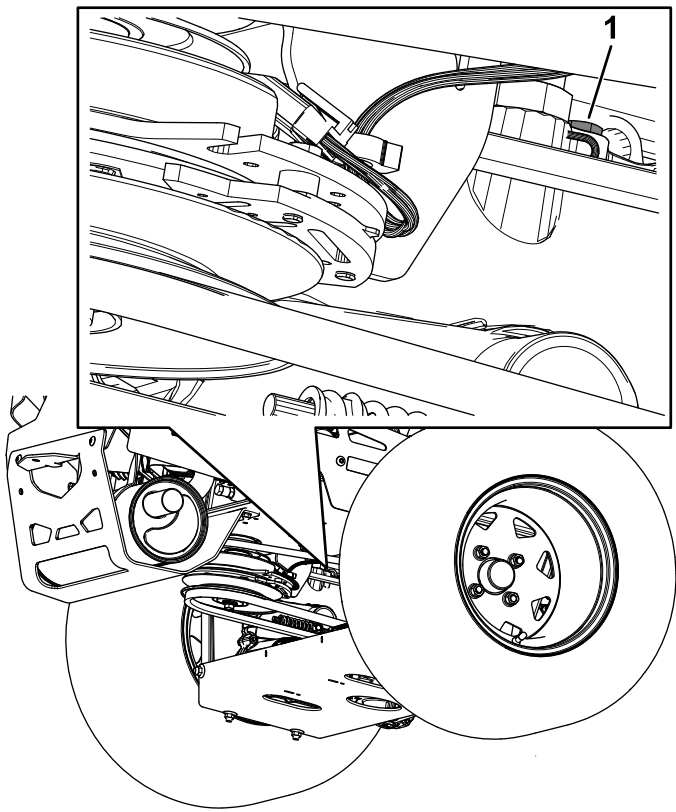

Figure 79
- **For ZT 5400 Hydros**, use a 7/16-inch wrench to access the vent plug from underneath the machine (Figure 79).